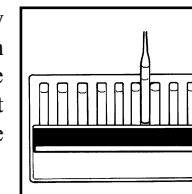

Figure 4
- b. Hold the high range comparator in a nearly horizontal position while standing directly beneath a bright source of light. Place the VACUette ampoule between the color standards moving it from left to right along the comparator until the best color match is found (fig 4).